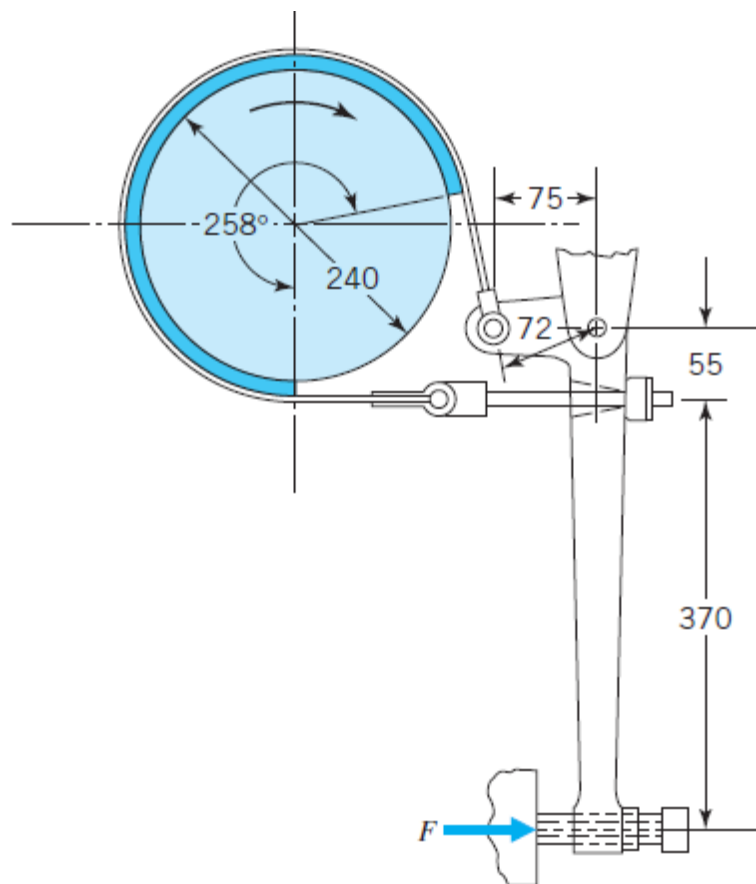

Fig.1 Band brake with a punch press (ref: Fundamentals of Machine Component Design, 5th Edition, Wiley.)
1. Fig.1 shows a band brake used with a punch press. When in use, the motor and flywheel of the punch press run continuously. A compressed-air-actuated, multiple-disk clutch connects the flywheel to the countershaft each time the press is to punch or form metal. In use, the clutch is released when the crank is 130° past bottom dead centre. The brake is to be engaged at this point, and bring the crank to rest at top dead centre. The crank assembly has a mass moment of inertia of approximately 15 N.m.s^2 and is rotating at the rate of 40 rpm when the brake is engaged. The brake will be used about three times per minute, so the maximum pressure on the band lining should be limited to about 0.20 MPa for long life. Coefficient of friction can be taken as 0.30.